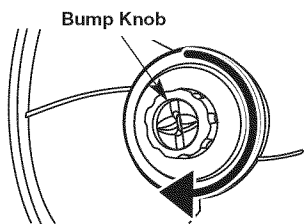

Fig. 14
1. Rotate the bump knob clockwise until all line is inside the cutting head (Fig. 14).
3. Hold the spool cover, turn the bump knob clockwise to wind the line around the spool until about 5 in. (12.7 cm) is protruding from each side of the cutting head. (Fig. 14)